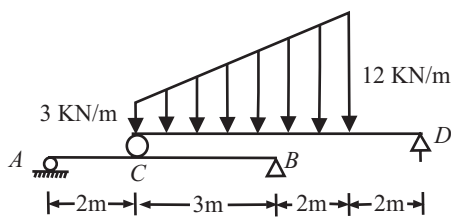

Fig 8.58
Q. 25: Determine the reactions at A,B and D of system shown in fig 8.58. (Dec-01-02)